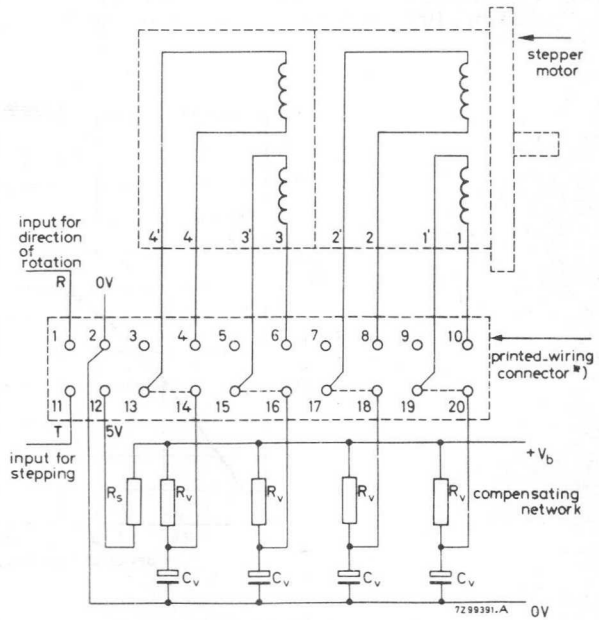

Fig.2b. Diagram for connecting the motor to the electronic switch via a printed-wiring connector, with compensating network.
1) measured with 4-phase electronic switch 9904 131 03003 and with the coils connected according to Fig. 2b.